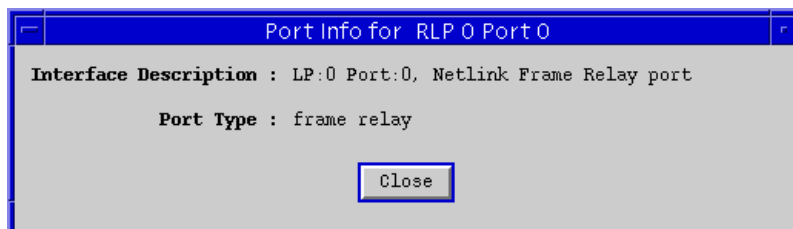

Figure 2-9. The Serial Port Information Window
2. Drag down to **Configuration**, and release. The Port Configuration window, Figure 2-9, will appear.
2. Drag down to **Information**, and release. The Port Info window, Figure 2-9, will appear.